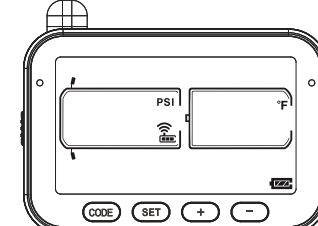
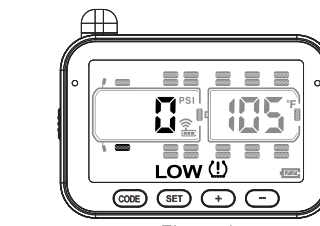

Figure 1. Standby mode
Figure 4. Standby mode after pairing
1. After turning on the display (Figure 1), press and hold the "CODE" button for 3 seconds. The buzzer will return to the normal display screen (Figure 4). Install the sensors on the corresponding tire positions, and the display will show the pressure value of the tires (Figure 5). The operation is now complete.
3. Once all the sensors are paired, press and hold the "CODE" button for 3 seconds. The buzzer will sound "Bi", and the display will return to the normal display screen (Figure 4). Install the sensors on the corresponding tire positions, and the display will show the pressure value of the tires (Figure 5). The operation is now complete.